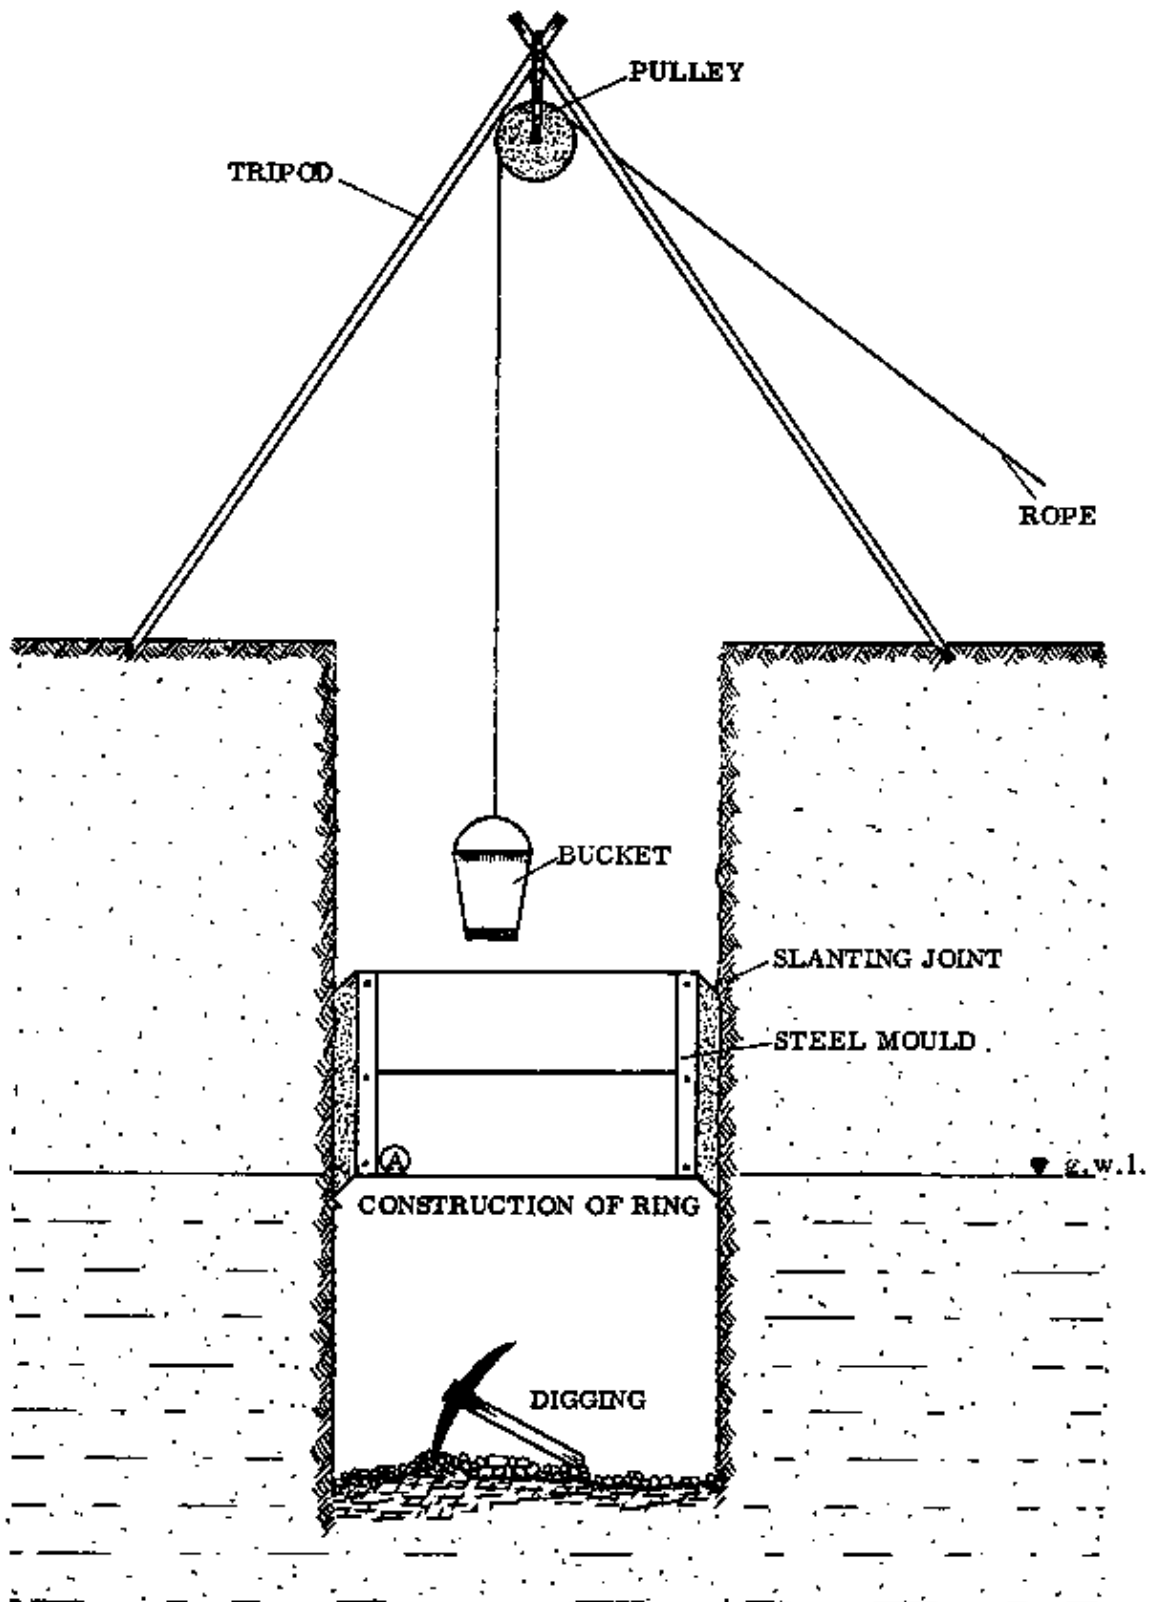

Fig. 1
- c. Make the first concrete ring section just above the g.w.l. (Fig. 1, A)
d. While the first section cures, proceed with digging the hole for the second section. The rings should be made with slanting edges as shown in Fig. 1, so that the joints between the rings slant downwards.